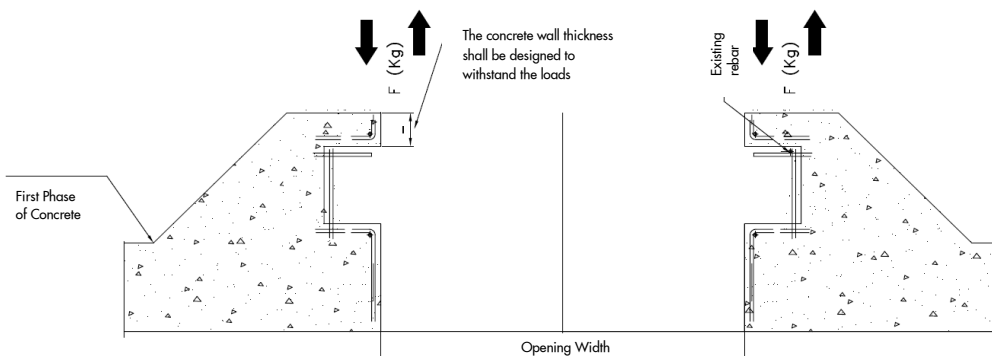

Figure 6
- The civil work shall be prepared to fit the slide gate (see Figure 6). Appropriate recesses are required for the frame (Refer to the GAD for dimensional information)